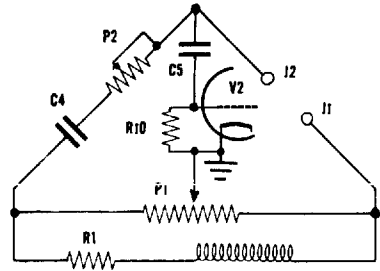
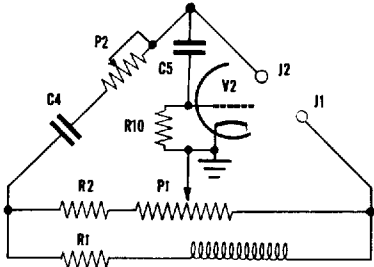

Fig. 2
Fig. 3
- Fig. 2. Bridge circuit for ".1mfd - 50mfd" range. P2 is required to balance the internal series resistance frequently present in electrolytic capacitors and is calibrated in % power factor.
- Fig. 3. Bridge circuit for "50mfd - 5000mfd" EXPANDED range. R2 expands capacitance measurement range as compared to circuit of Fig. 2.